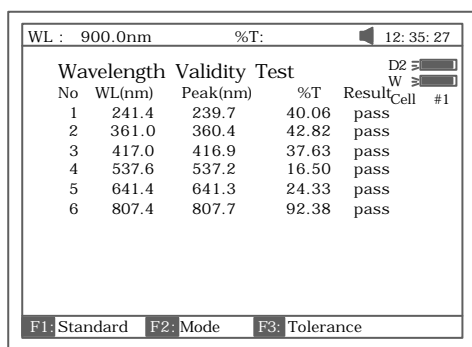

Fig 99
- Put the sample (calibrated holmium liquid) into the light path. Press **[START]** to check. The results will be displayed on the screen (Fig 99). If the discrepancy between the results and the calibrated values is not more than the tolerance, "pass" will be displayed after the test results. Otherwise, "fail" will be displayed.